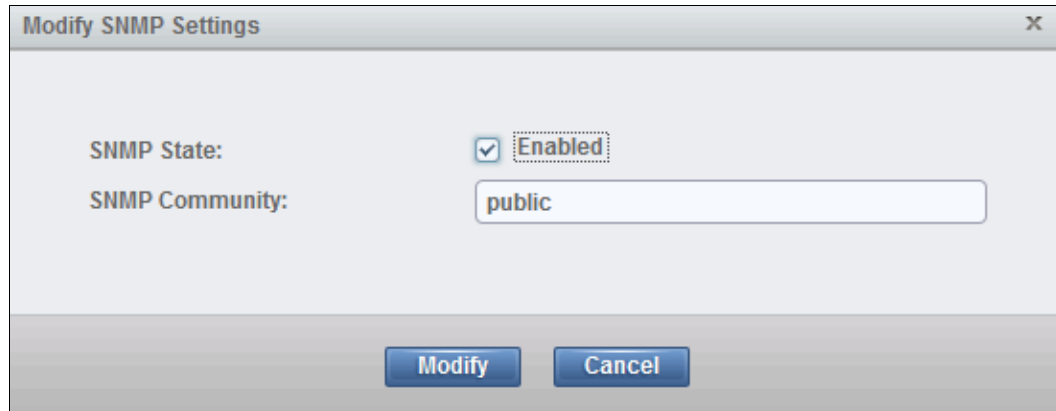

Figure 4-27 Modify SNMP Settings window
3. To change the setting, select **Modify**, as shown in Figure 4-26, which opens the Modify SNMP Settings window, as shown in Figure 4-27 on page 218.
To view or change the community name that is associated with the TS4500 Tape Library, click **Modify** in the Modify SNMP Settings page (see Figure 4-27).